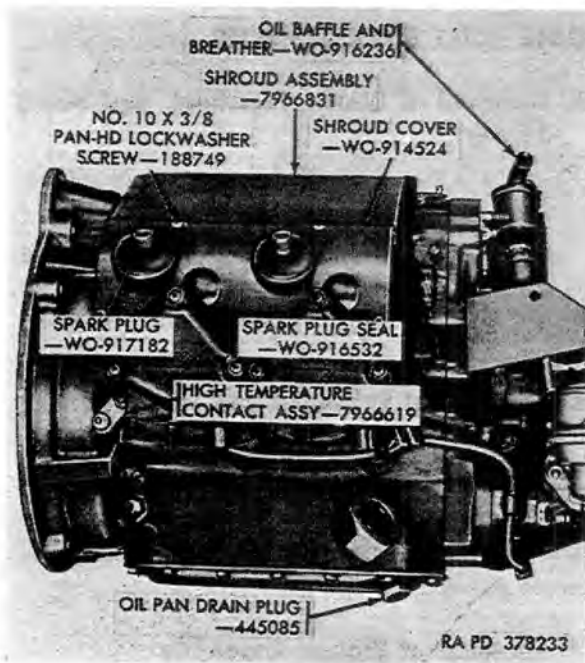

Figure 6. Shroud cover attaching points.
b. Remove the oil drain plug (fig. 6) and drain the engine oil.
35. Removal of Oil Baffle and Breather (fig. 6)
a. Remove four panhead lockwasher screws attaching shroud cover (fig. 6) to shroud assembly and